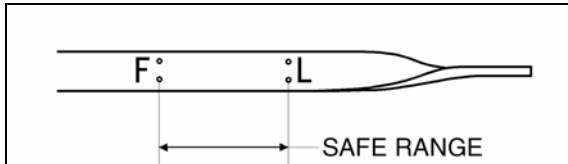

FIGURE 11: ENGINE OIL LEVEL DIPSTICK 01027
dipstick clean then check oil level. The level should always be within the safe range on the dipstick (Fig. 11). Add the proper grade of oil to maintain the correct level on the dipstick. All diesel engines are designed to consume some oil, so a periodic addition of oil is normal.
8. Remove the engine-oil filler cap and pour oil in the engine until it reaches the "FULL" mark on the dipstick (Fig. 11).
10. Add oil as required to bring the level within the safe range on the dipstick (Fig. 11).